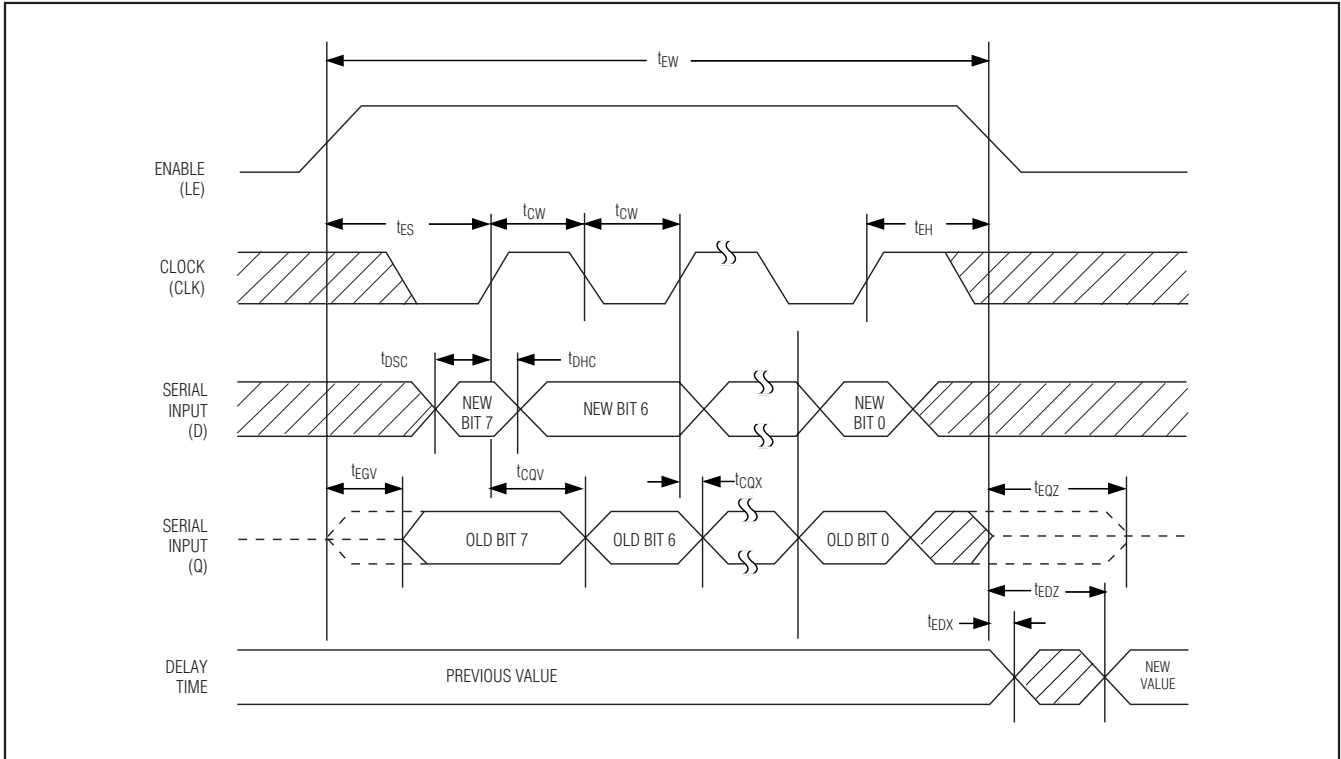

Figure 6. Serial Interface Timing Diagram
The 3-wire serial interface is enabled by connecting  $\bar{P}/S$  to  $V_{CC}$ . Serial mode operates similar to a shift register. When LE is set at a high logic level, it enables the register and CLK clocks the data, D, into the register one bit at a time starting with the most significant bit. After all 8 bits are shifted into the DS1123L, LE is pulled low to end the data transfer and activate the new value. A settling time ( $t_{EDV}$ ) is required after LE is pulled low before the signal delay meets its specified accuracy. A timing diagram for the serial interface is shown in Figure 6. The 3-wire interface also has an output (Q) that can be used to cascade multiple 3-wire devices, and it can be used to read the current value of the devices on the bus.